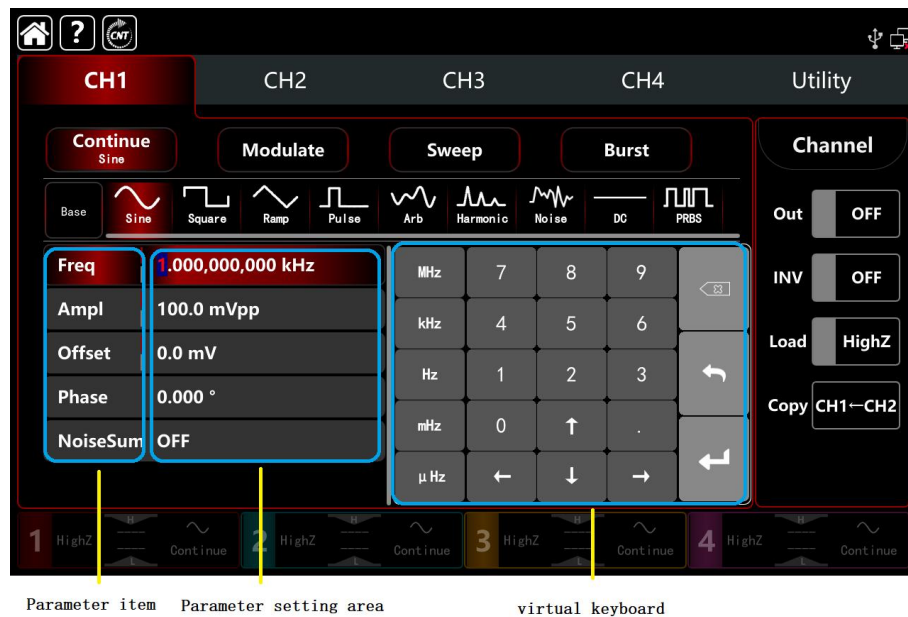

Figure 2-4 Parameter Editing
- ③ Output Mode: continue, modulate, sweep, burst
- ④ Carrier wave Settings: Nine carrier wave - sine wave, square wave, ramp wave, pulse wave, harmonic wave, noise, PRBS (pseudo random binary sequence), DC, arbitrary wave.
- ⑤ Parameter List: Display the parameter of the current wave in list format, tap parameter list area to enable editing, virtual numeric keyboard pop-out ,see Figure 2-4